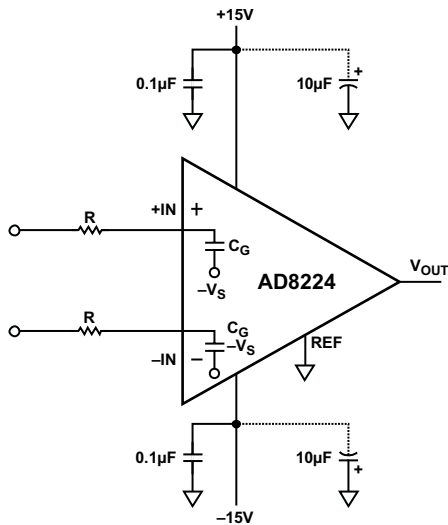

Figure 60. RFI Filtering Without External Capacitors
RF rectification is often a problem in applications where there are large RF signals. The problem appears as a small dc offset voltage. The AD8224 by its nature has a 5 pF gate capacitance (CG) at its inputs. Matched series resistors form a natural low-pass filter that reduces rectification at high frequency (see Figure 60).